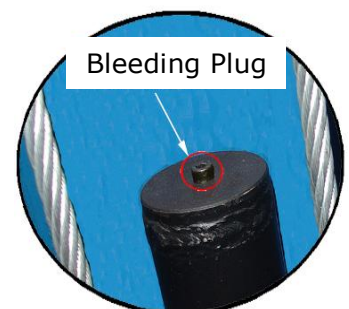

Fig. 56
3. Exhaust air from cylinder(See Fig. 56)